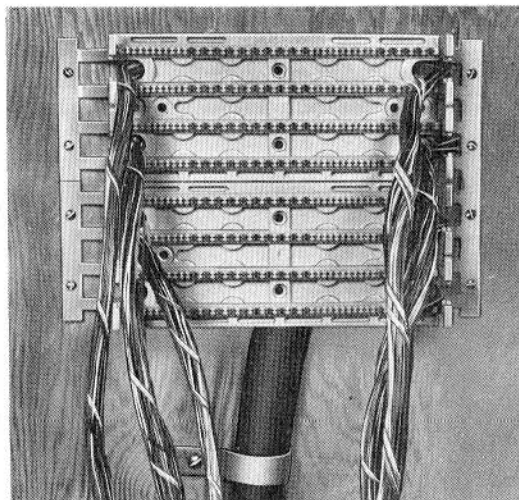

Fig. 16—200-Pair Cable in Cable Slots
3.08 Remove the cable sheath for multiple binder cables, approximately twice the length of the wiring block, allowing the sheath end to extend under the backboard. The cable is separated into 25-pair groups with their proper identification (color binder). The 25-pair binder groups are threaded through the cable slots provided in the backboard (blue-white through cable slot number 1 to row 1, orange-white through cable slot number 2 to row 2, green-white through cable slot number 3 to row 3, brown-white through cable slot number 4 to row 4, etc (Fig. 16).